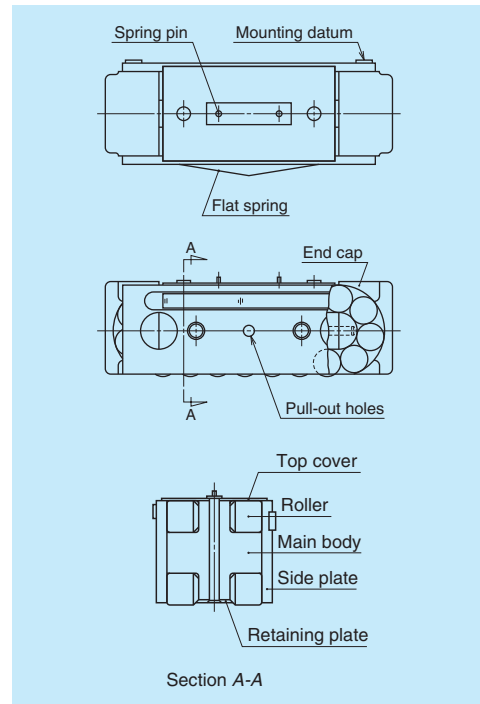

Fig. 1 Roller pack
A roller pack comprises a main body which supports load from the guide way block via two rows of rollers; an end cap which changes the direction of the re-circulation of rollers at the end of the main body; a side plate which guides the rollers (**Fig. 1**). Roller pack is one of the linear rolling guides, where rollers are allowed to re-circulate infinitely.
- C: Basic dynamic load rating (N)
- F_c: Calculated load (N) applied to the roller pack
- In case of heavy load, the roller pack could not be pulled out by the above method. Hook a tool to the pull-out hole (**Fig. 1**) on the side plate of the roller pack, and pull out the roller pack.